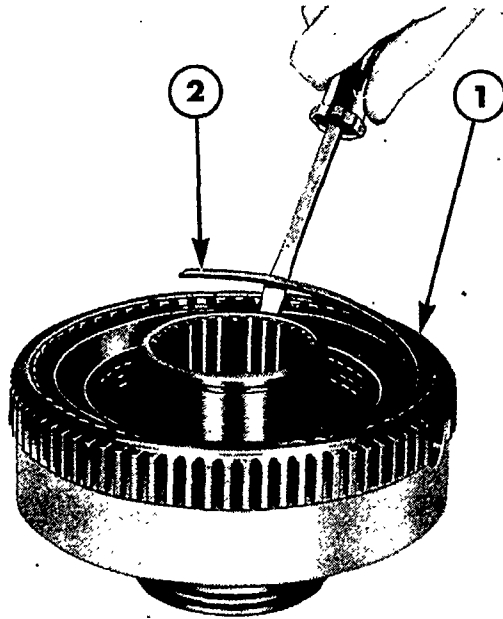

Figure 14
5. Remove the clutch pressure plate snap ring as shown in Figure 14.